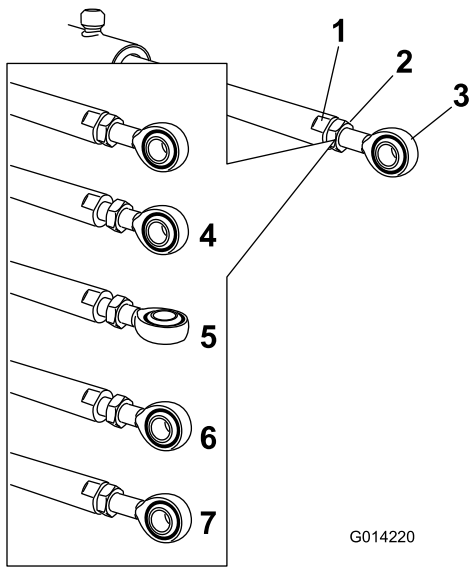

Figure 93
5. Use a wrench on the flat sides of the actuator rod to immobilize it, then loosen the jam nut to manipulate the eyelet rod (Figure 93).
- Turn the eyelet rod in the actuator rod to shorten or lengthen the extended actuator to the desired position (Figure 93).